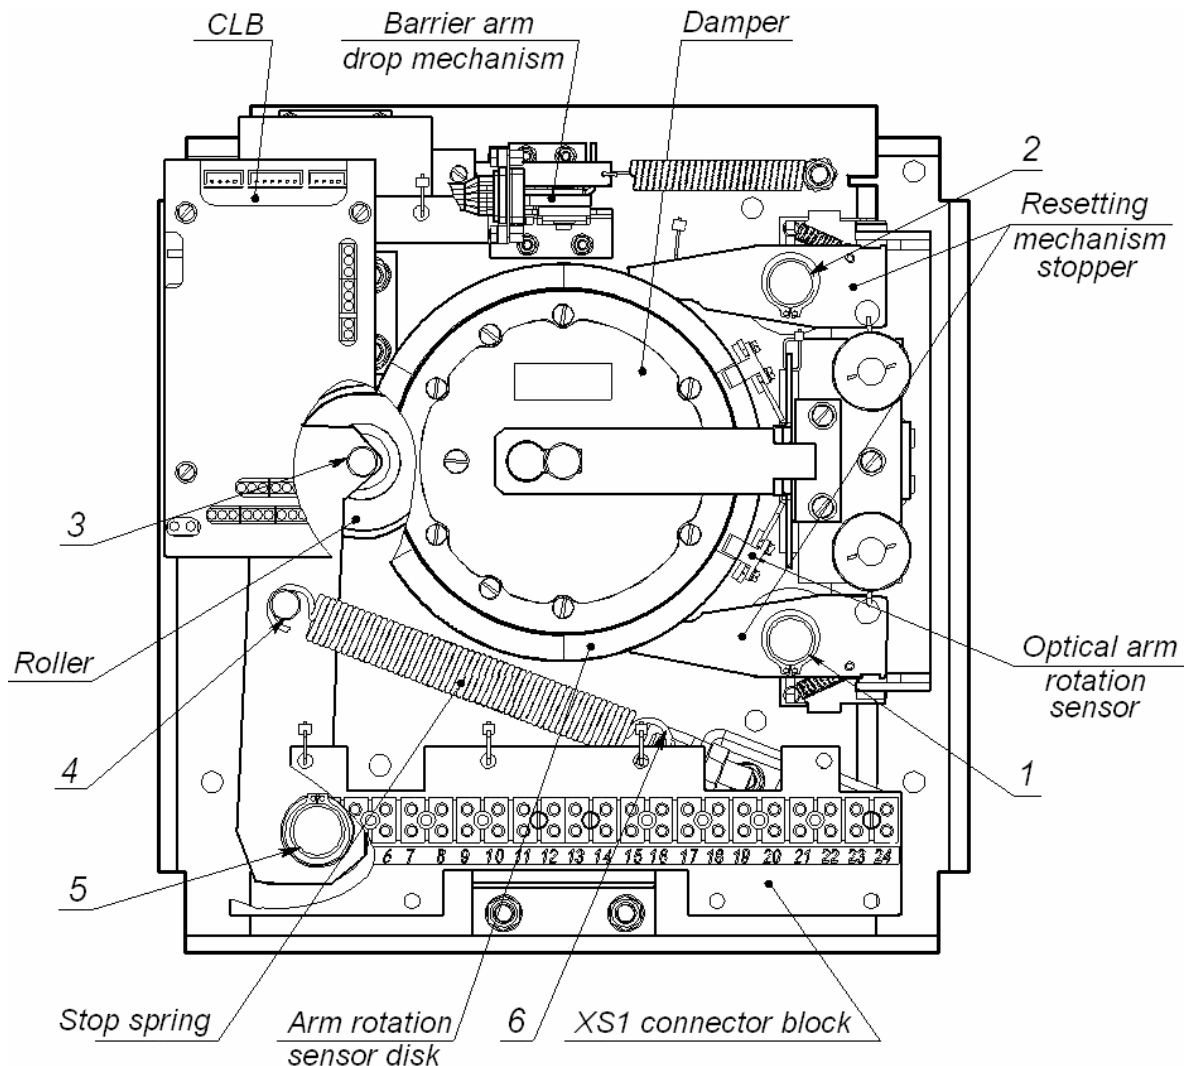

Figure 14. Location of the interior components of the turnstile mechanism
7. Check visually the resetting device (pusher, springs and roller), the arm rotation sensors and the damper (Fig. 14).
- a. with **Chain and Rope Lube Spray - WEICON** lubricate the rotation axis of the stoppers (1,2), roller (3) and the pusher arm (5, Fig. 14);
12. Connect the **S1** cable connector of the indication board to the CLB and mount the cover with LED display (2) back into its place in the reverse order to the dismantling. When the cover mounting is carried out correctly it does not need much effort.
13. Install the hub (5) with barrier arms (3) as indicated in section 8.4
14. Check the reliability of electromechanical barrier arm unblocking device by turnstile power on / off. If necessary, lubricate the hinged connections to the hub (5).
15. Check the reliability of the turnstile housing fastening to the floor and if necessary, tighten the anchor bolts (15) with S17 socket wrench. Before it is necessary to remove plastic plugs (16) out of the holes in the turnstile housing base.